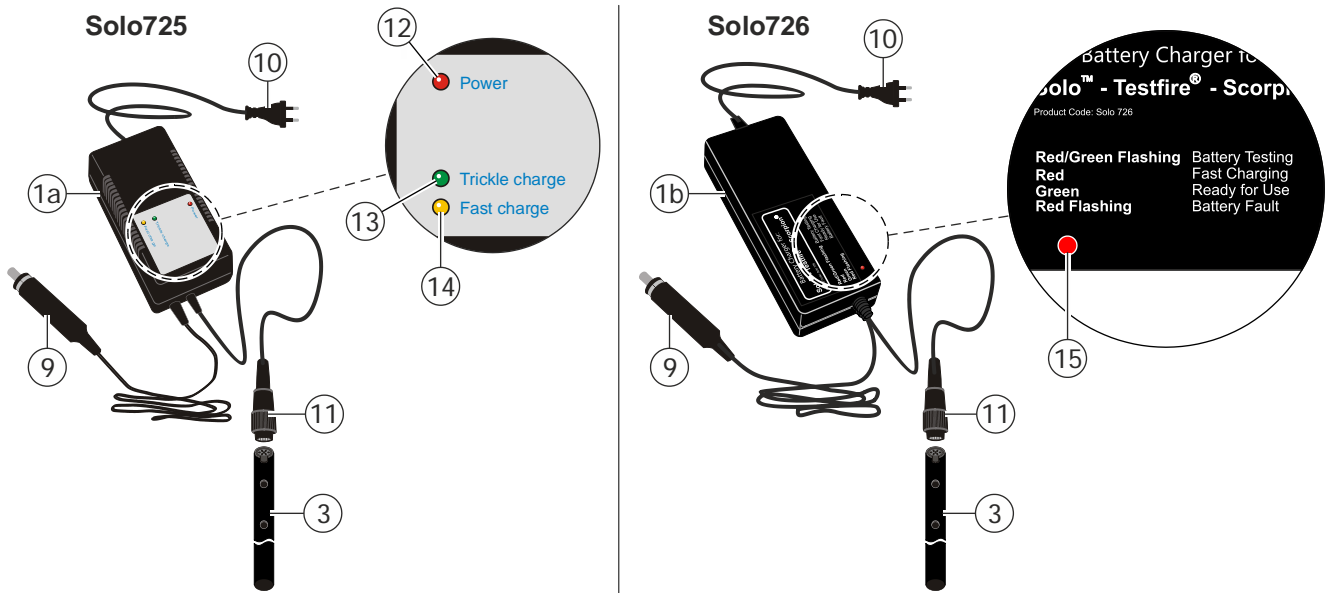

Fig. 4
1. Connect the charger's (1a;1b) connector (11) to a rechargeable battery (3) (Fig. 4).
2. Connect the mains cable (10) to the charger (1a;1b) and a socket for AC 110/120...220/240 V.
2. Connect the cable (9) to a socket for DC 12 V; e.g., a cigarette lighter socket in a vehicle.